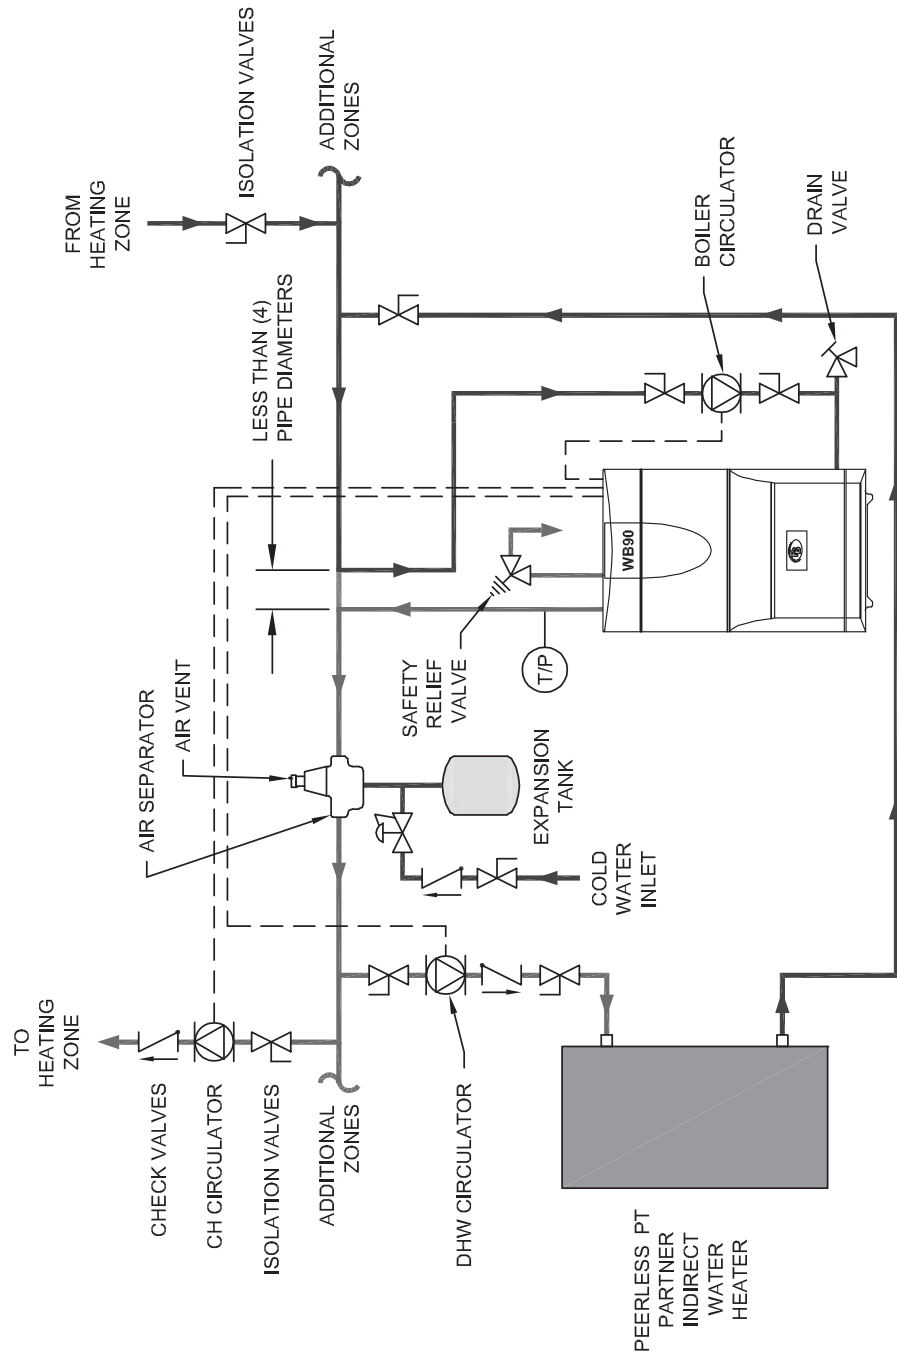

Figure 4.3: Recommended Water Piping
9. *Indirect Water Heater:* An indirect water heater should be piped to a dedicated zone as shown in Figure 4.3. The WB90™ provides 120 VAC output to operate a domestic hot water (DHW) circulation pump.
1. Figure 4.3 shows the recommended piping for the WB90™ boiler. It is extremely important that the boiler is piped primary/secondary (as shown) to prevent damage to the boiler due to condensation.
2. The DHW zone is piped from the primary loop in parallel with the central heating (CH) zones. It should be piped as close to the boiler as possible since it should be the hottest zone.